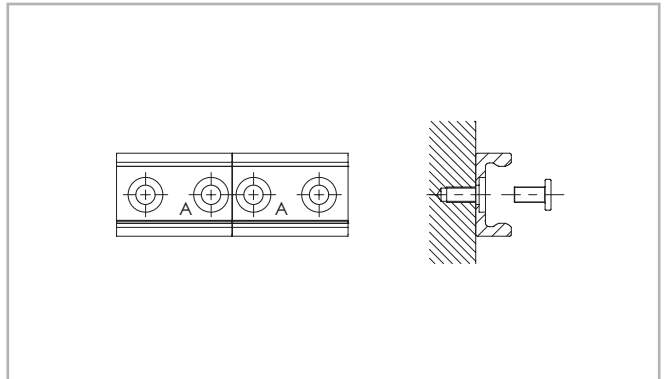

Fig. 80
- (1) Fix the individual rails on the mounting surface by tightening all screws except for each last one on the rail joint.
- (2) Install the end fixing screws without tightening them (see fig. 80).